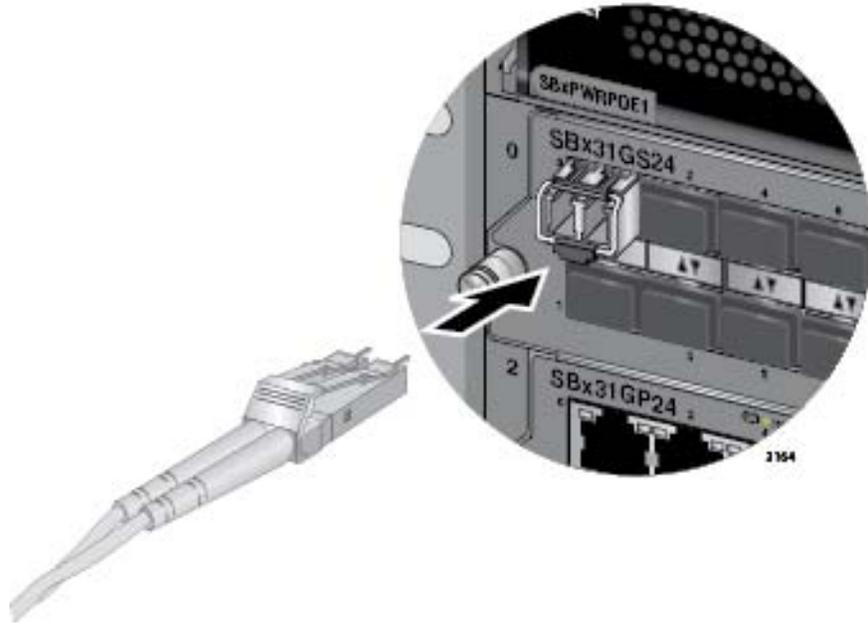

Figure 86. Attaching a Fiber Optic Cable to an SFP Transceiver in the AT-SBx31GS24 Line Card
6. Connect the fiber optic cable to the port on the transceiver, as shown in Figure 86. The connector should snap into the port.